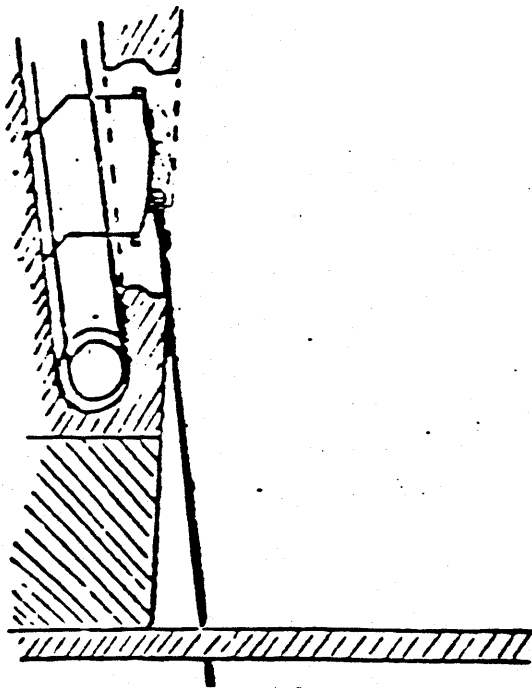

Figure 8.3 Top View
1. Clean the head surface and tape cleaners with six-inch cotton swab moistened with Freon TF or 98% isopropyl alcohol. Use a top-to-bottom motion on the head surface and the edges of the tape cleaners. See Figures 8.3 and 8.4.